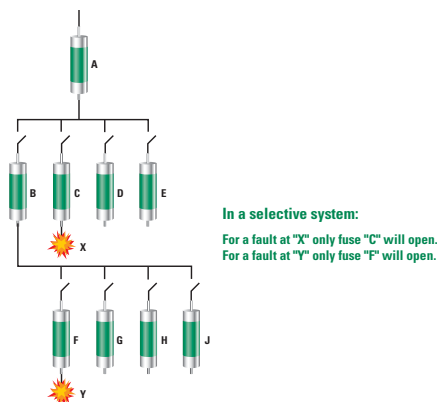

Figure 15 – Selective Coordination Example
**Selective Coordination** (See Figure 15) – In a selectively coordinated system, only the protective device immediately on the line side of an overcurrent opens. Upstream protective devices remain closed. All other equipment remains in service, which simplifies the identification and location of overloaded